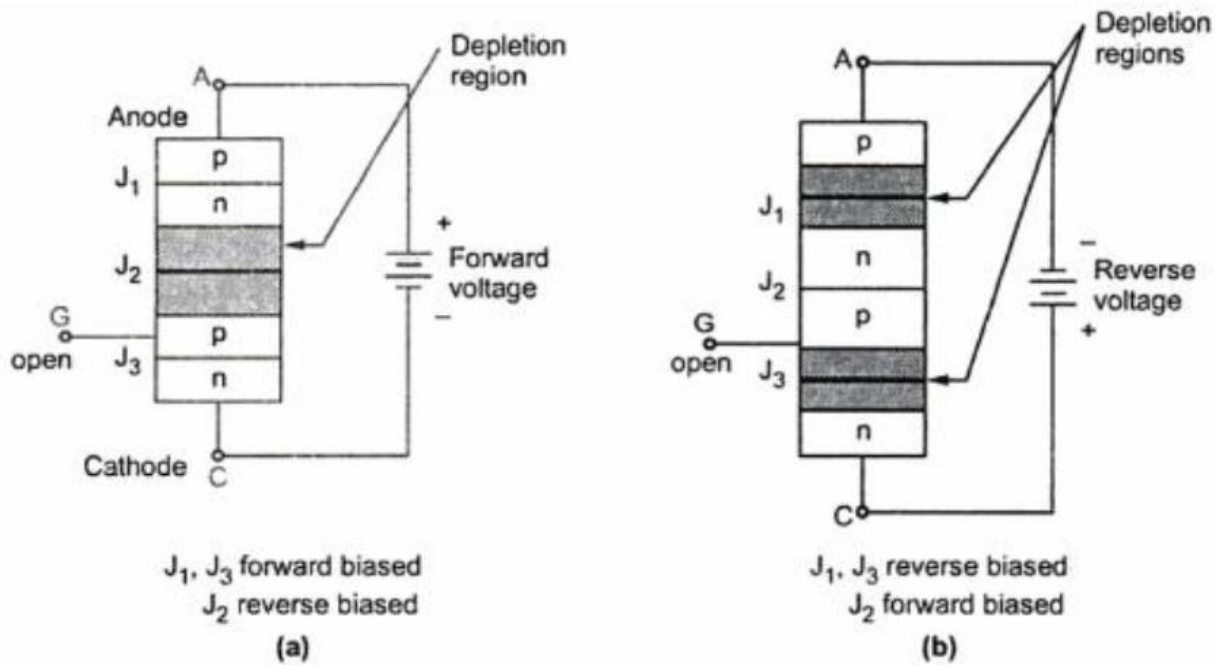

Fig. 5.26 Operation of SCR when Gate is open
- This is shown in the Fig. 5.26 (a).
- This is shown in the Fig. 5.26 (b).